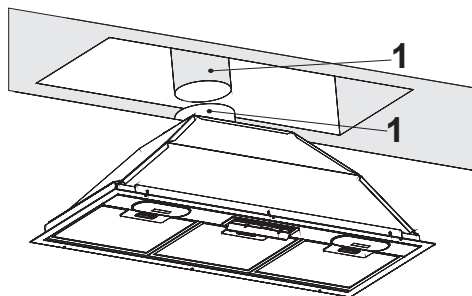

Figure 4
- Attach the air discharge pipe to the air exhaust flue and fasten via clamp (Figure 4).